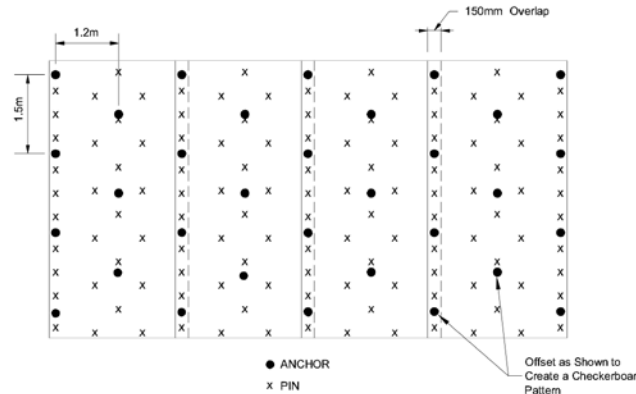

FIGURE 4: ANCHOR / PIN PATTERN DETAIL
- a: Roll edge overlap - 150mm minimum overlap with upstream mat on top. Secure with one row of ground pinning devices on 300mm centers and with one row of earth percussion anchors on 1.2m centers (see Figure 4)
- Secure mat using suggested ground pinning devices and earth percussion anchors for appropriate frequency and pattern shown on the Anchor/Pin Pattern Detail (see Figure 4) and Pin/Pattern Detail (see Figure 6)